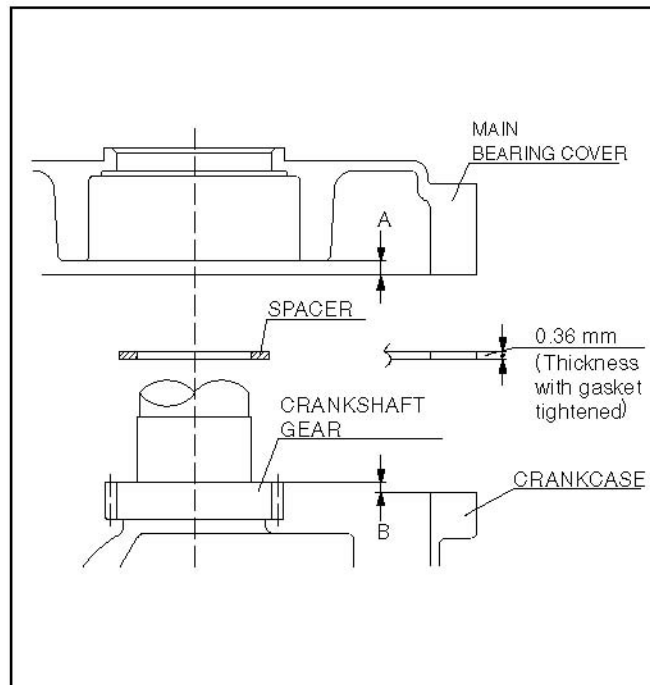
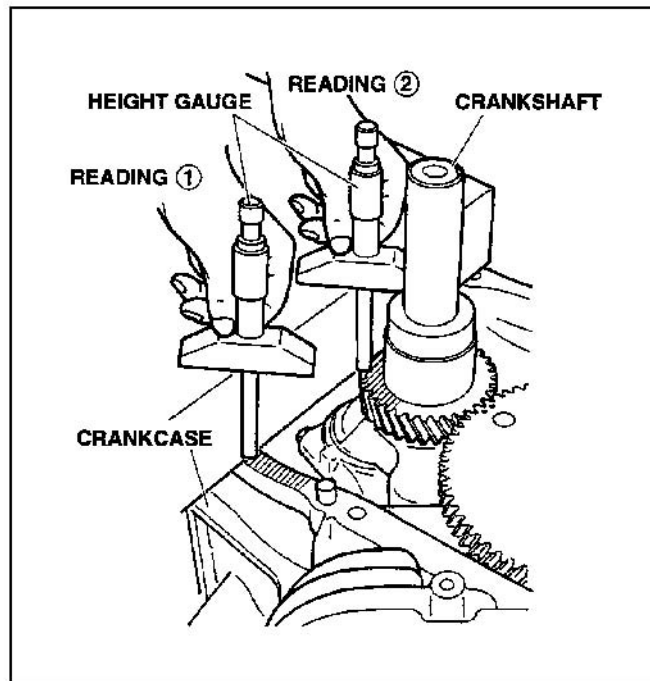

FIGURE 71. CRANKSHAFT END PLAY
FIGURE 72. CRANKSHAFT END PLAY
1. Measure and record the A and B distances (Figure 71). Figure 72 shows a method for determining the B distance. B is equal to Reading 1 minus Reading 2.